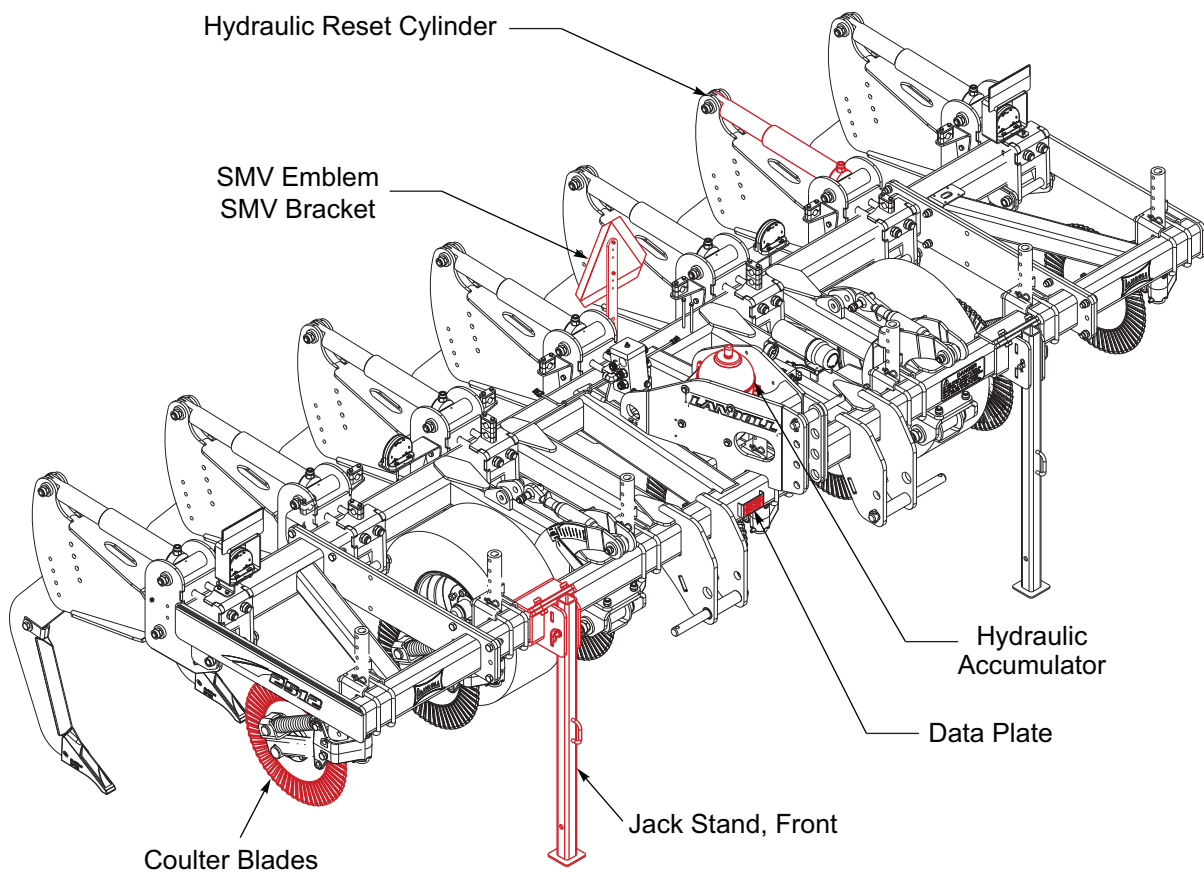

Figure 3-3: 2512 Series Parts Identification
1. Attach the SMV Mounting Bracket at a point where emblem is visible from rear of machine, using U-Bolt and 5/8-11 flange head serrated nuts *See Figure 3-3.*